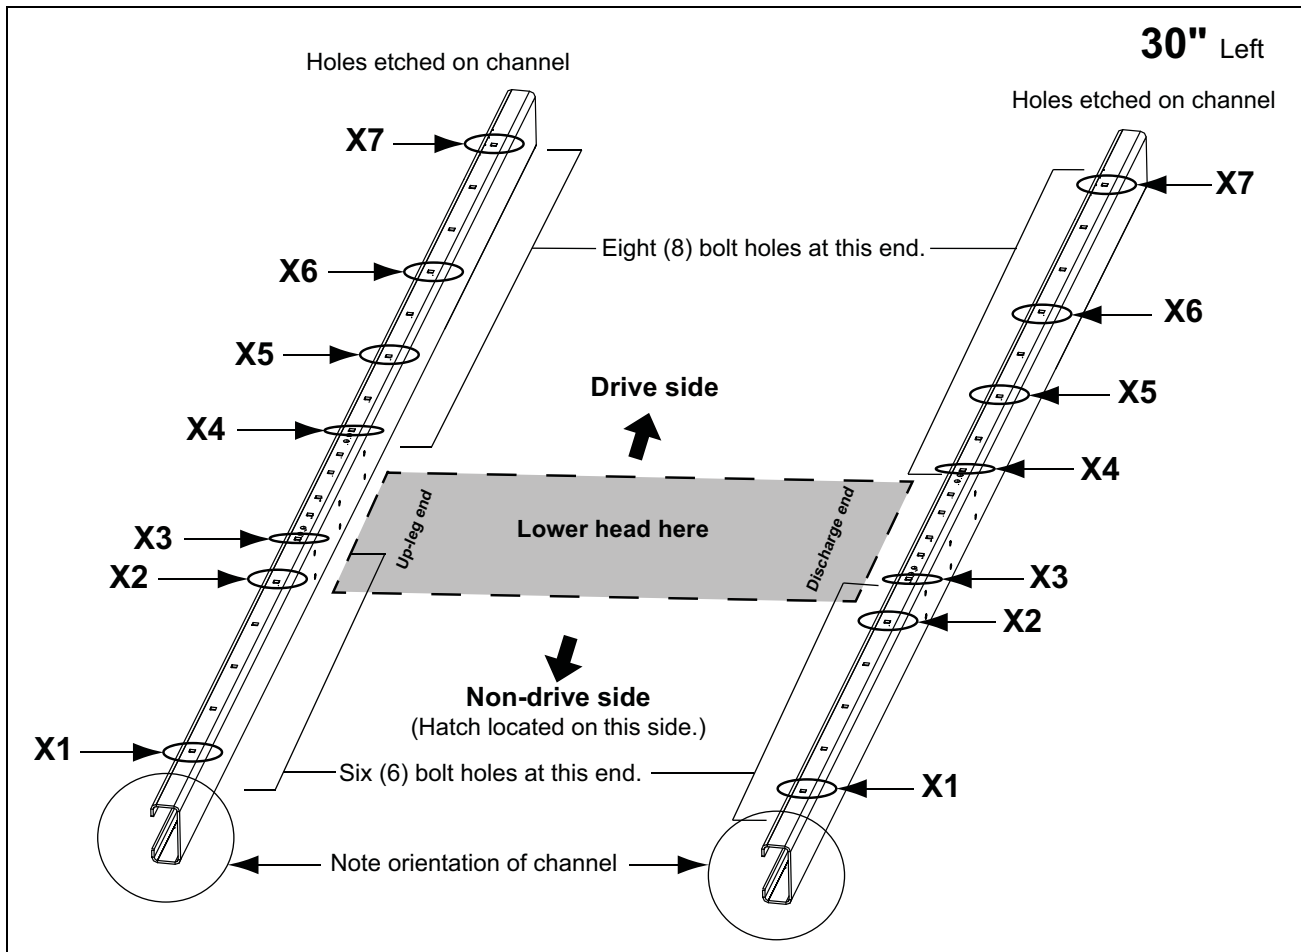
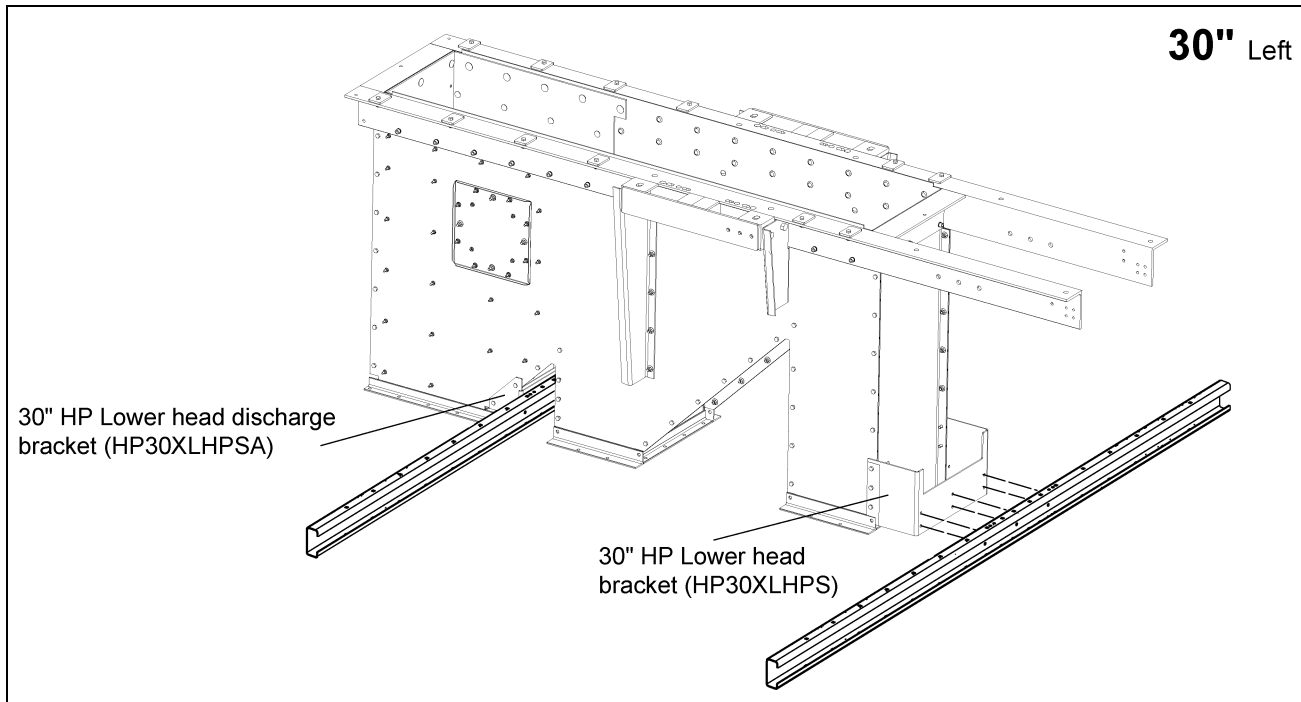

Figure 9D 30" Left Side Drive Channel Position
Figure 9E 30" Left Drive - Cross Deck Support Channels to Lower Head Brackets
(See Figure 9D on Page 81.)
3. Attach cross deck support channels (HP36DSCX) to the top-most set of holes of the lower head brackets (HSP36130) using 3/8" x 1" bolts and nuts. (See Figure 9E on Page 81.)
***NOTE:** The channels *MUST* be oriented as shown in Figure 9D and Figure 9E on Page 81 in order for the decking and subsequent assembly to be done correctly.